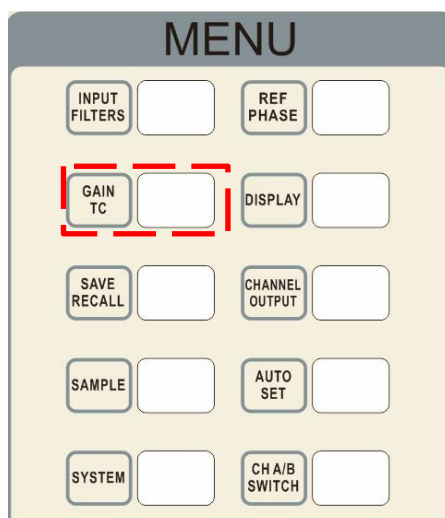

Fig.85 [GAIN/TC] Menu
5. Press [GAIN/TC] in front panel and then enter the submenu shown in Fig.85.